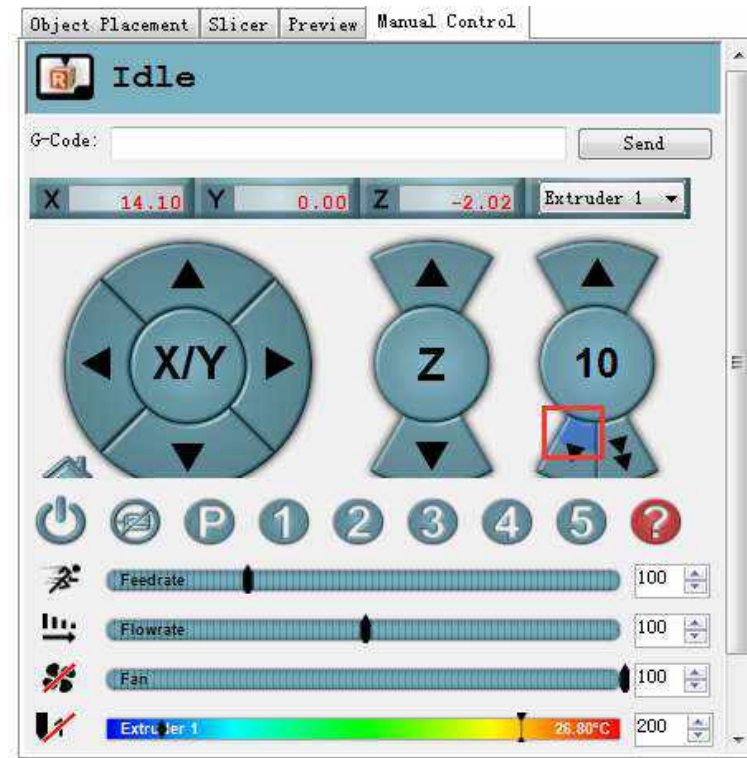

Figure 5.120 Extrude filament
2. Click the extruder feeder when the heating temperature is up to 200°C and feed up to 10mm-30mm, as shown in Figure 5.120.